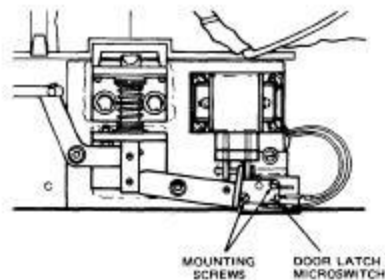

Figure 11-24. Door Latch Microswitch
4. Remove the two mounting screws for the latch microswitch using a 90° offset screwdriver. Figure 11-24.